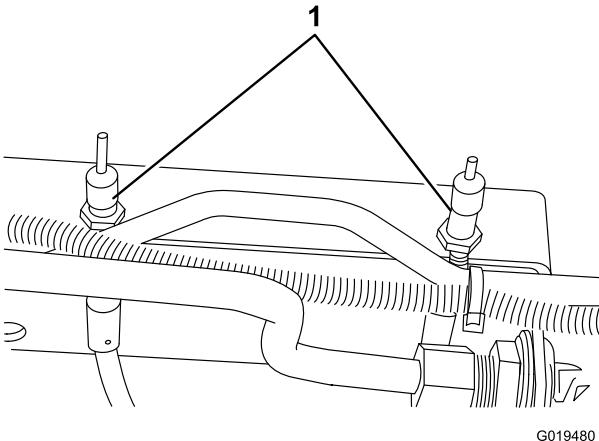

Figure 75
2. To reduce free travel of brake pedals, tighten the brakes by loosening the front nut on the threaded end of the brake cable (Figure 75). Then tighten rear nut to move cable backward until brake pedals have 1.2 to 2.5 cm (1/2 to 1 inch) of free travel. Tighten front nuts after brakes are adjusted correctly.